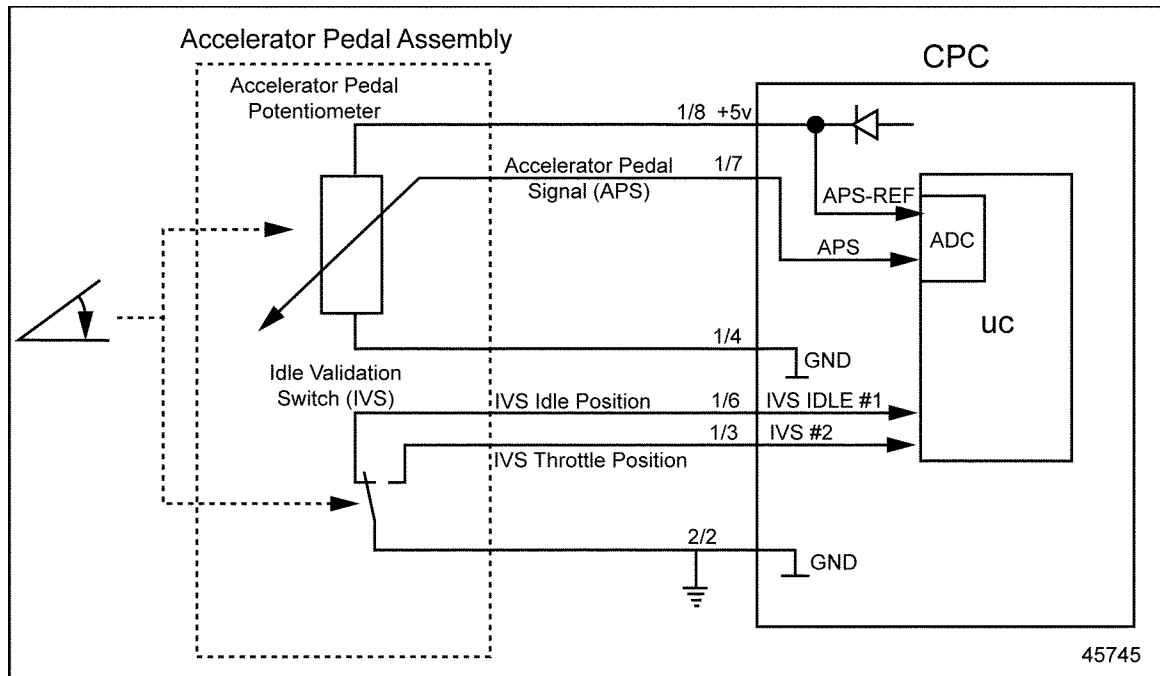

Figure 17-1 Idle Validation Switch, Part of the Accelerator Pedal Assembly
1. Disconnect the Idle Validation Switch. See Figure 17-1.